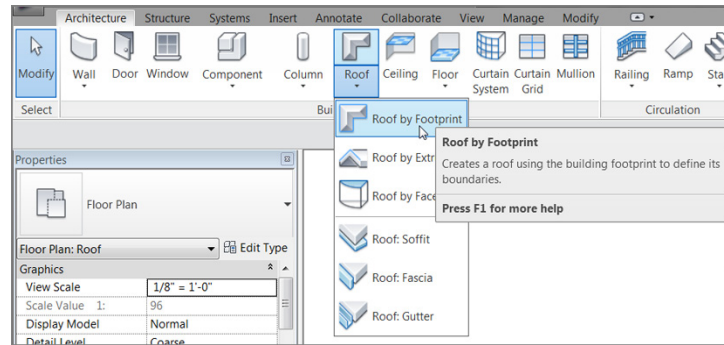

FIGURE 7.2 : Clicking Roof By Footprint on the Architecture tab of the Design bar
8. On the Architecture tab, click Roof ➤ Roof By Footprint, as shown in Figure 7.2.